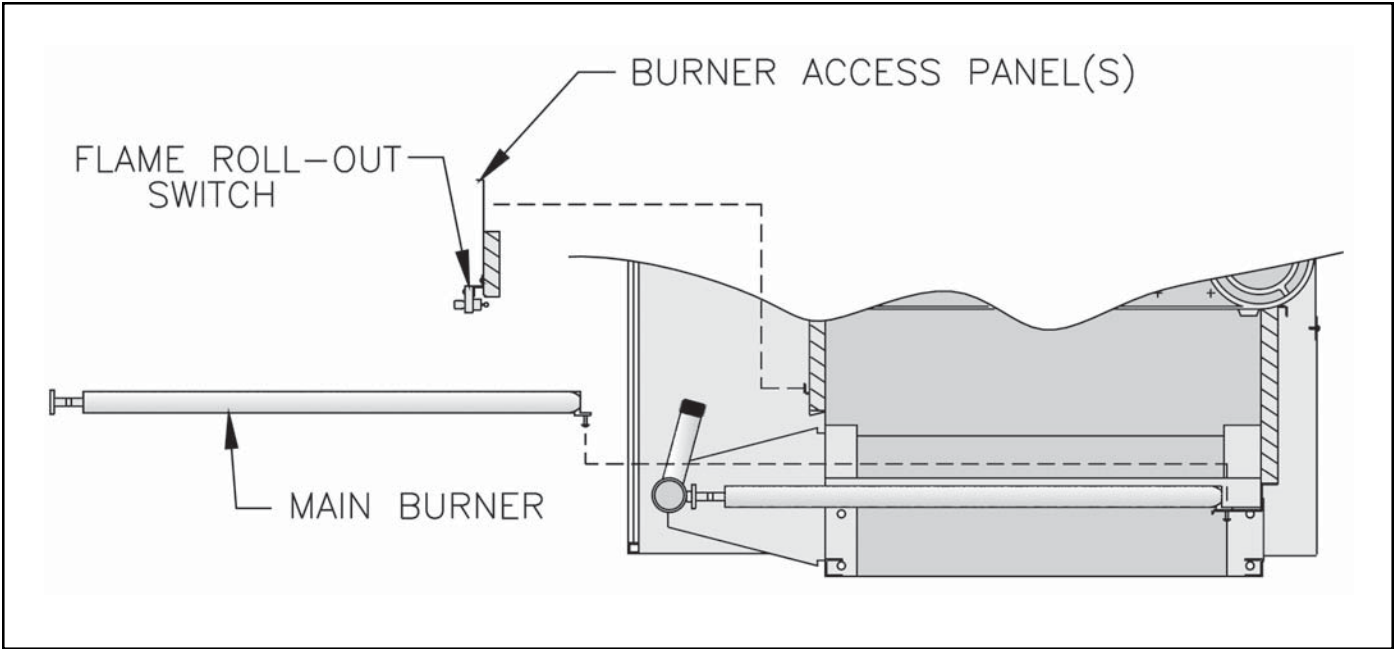

Figure 7: Burner/Burner Access Panel Installation
J. Install Pilot/Main Burner Assembly. See Figure 7. Assembly is located in Combination Boiler Parts and Control Carton. Verify assembly is properly located on support bracket in Base Rear Panel, seated on Main Burner Orifice, and secured with hitch pin clip.